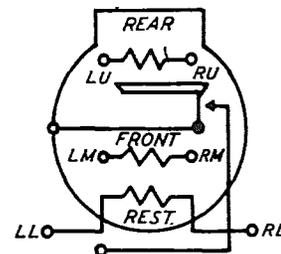

FIG. 7 - WINDING TERMINAL ARRANGEMENT AS VIEWED FROM THE REAR (TERMINAL SIDE)-44 TYPE RELAY
2.08 As viewed from the front, the armature (frame terminal) is indicated by 1 and the make contact screw by 2. As viewed from the rear of the relay, the winding terminals are designated as shown in Fig. 7.